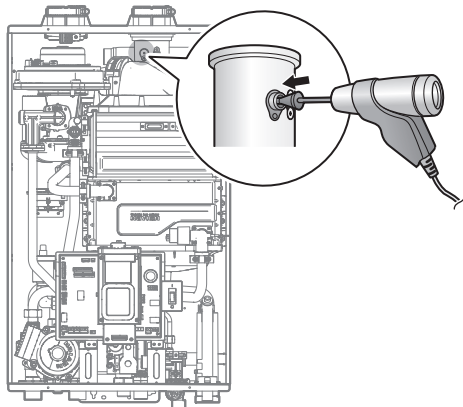

Figure 7. Insert the Analyzer
- a. Loosen the screw, rotate the plate and remove the gasket to access the emissions monitoring port as shown in Figure 7.
- b. Insert the analyzer into the port (Figure 7).